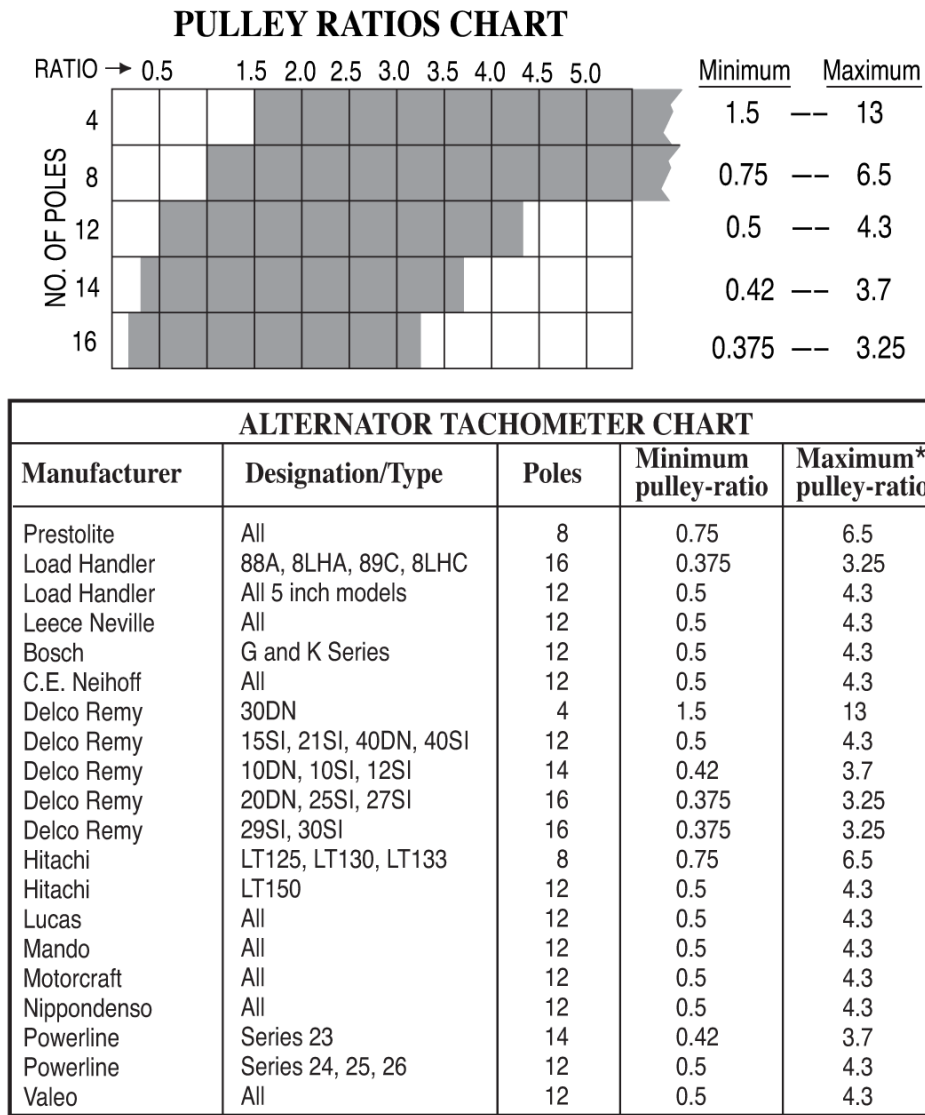

Figure 4
2. The Alternator Tachometer Chart (Figure 4 – in the section: Pulley Ratios Chart and Alternator Tachometer Chart) lists common alternators and their minimum and maximum pulley ratios. Determine pulley ratio with the following formula:
3. CHECK that Pulley Ratio falls within the range shown on the Pulley Ratio Chart (Figure 4) for a particular alternator. If ratio falls in the shaded area, the tachometer can be calibrated for the application.